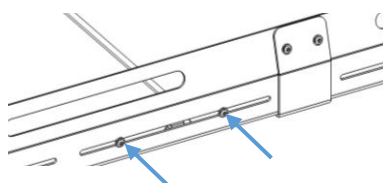

Figure 3: Side Rail Attachment
5. Install the pre-assembled side rails onto the flooring panels using the #10-32 x 3/8" bolts into all *available* threaded holes through the lower slot on the side rails as shown in Figure 3.